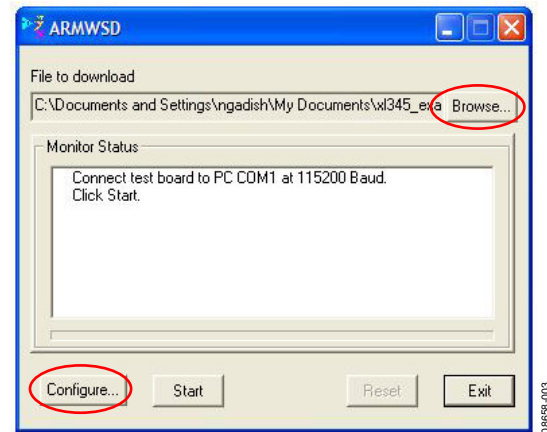
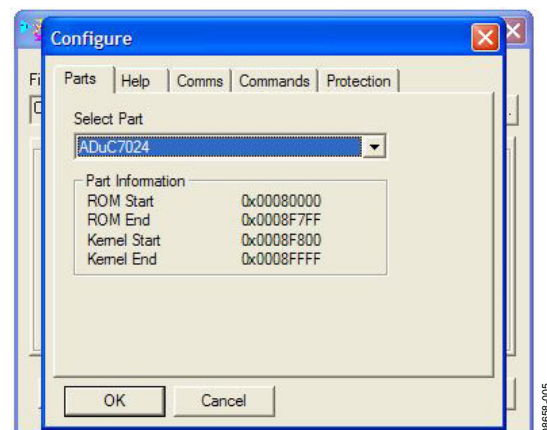

Figure 3. ARMWSD Window
Figure 4. ARMWSD Configure Window: Parts Tab
3. Click **Configure...** (see Figure 3) and select the **Parts** tab, shown in see. Make sure the **ADuC7024** is selected in the **Select Part** pull-down list (see Figure 4). Additionally, in the **Comms** tab, make sure the **Baudrate** is set to 115200, and the **Serial Port** is set to COM1, and then click **OK**.
4. In the ARMWSD window, click **Browse...**, see encircled in Figure 3, and navigate to the location of the .hex file to be loaded onto the board. Select the file and click **Open**.